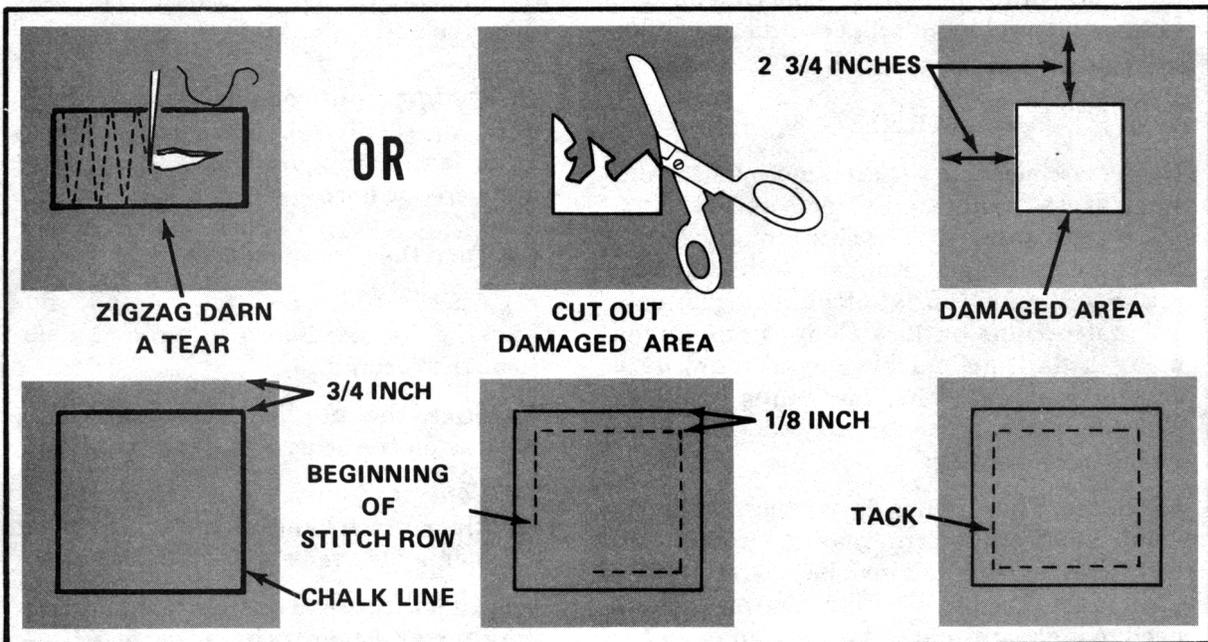

Figure 9-2. Simple canvas top patch
(1). **Simple Canvas Top Patch.** A simple canvas top patch (Figure 9-2) is sewn to the top side of canvas. It is the easiest patch to make and to attach to damaged canvas. To make the simple canvas top patch--